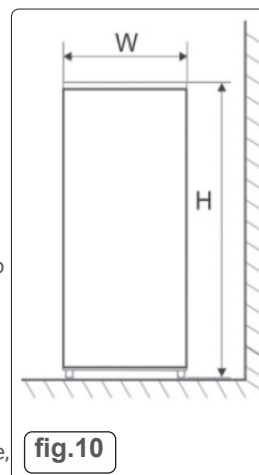
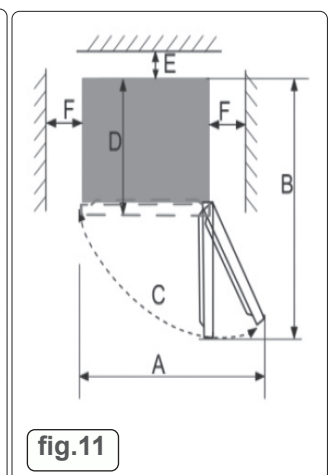

fig.10
fig.11
- **NOTE:** Fig. 10, Fig. 11 illustrate the space required around the unit installation.